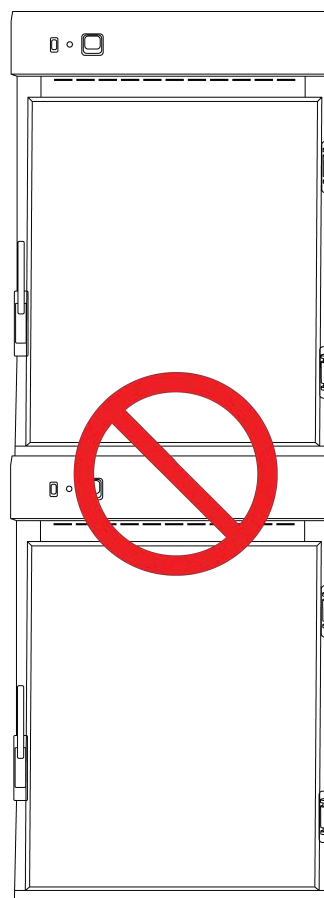

Fig 2.
- Under no circumstances should any ovens be stacked on top of each other (**Fig 2**).